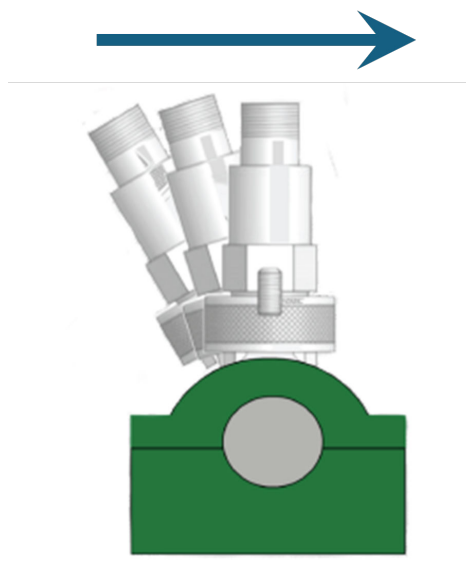

Figure 8. “Rocking” motion for magnetically mounting an accelerometer (image courtesy of Connection Technology Center)
4. "Rock" the sensor/magnet combination onto the selected location as shown in Figure 8.